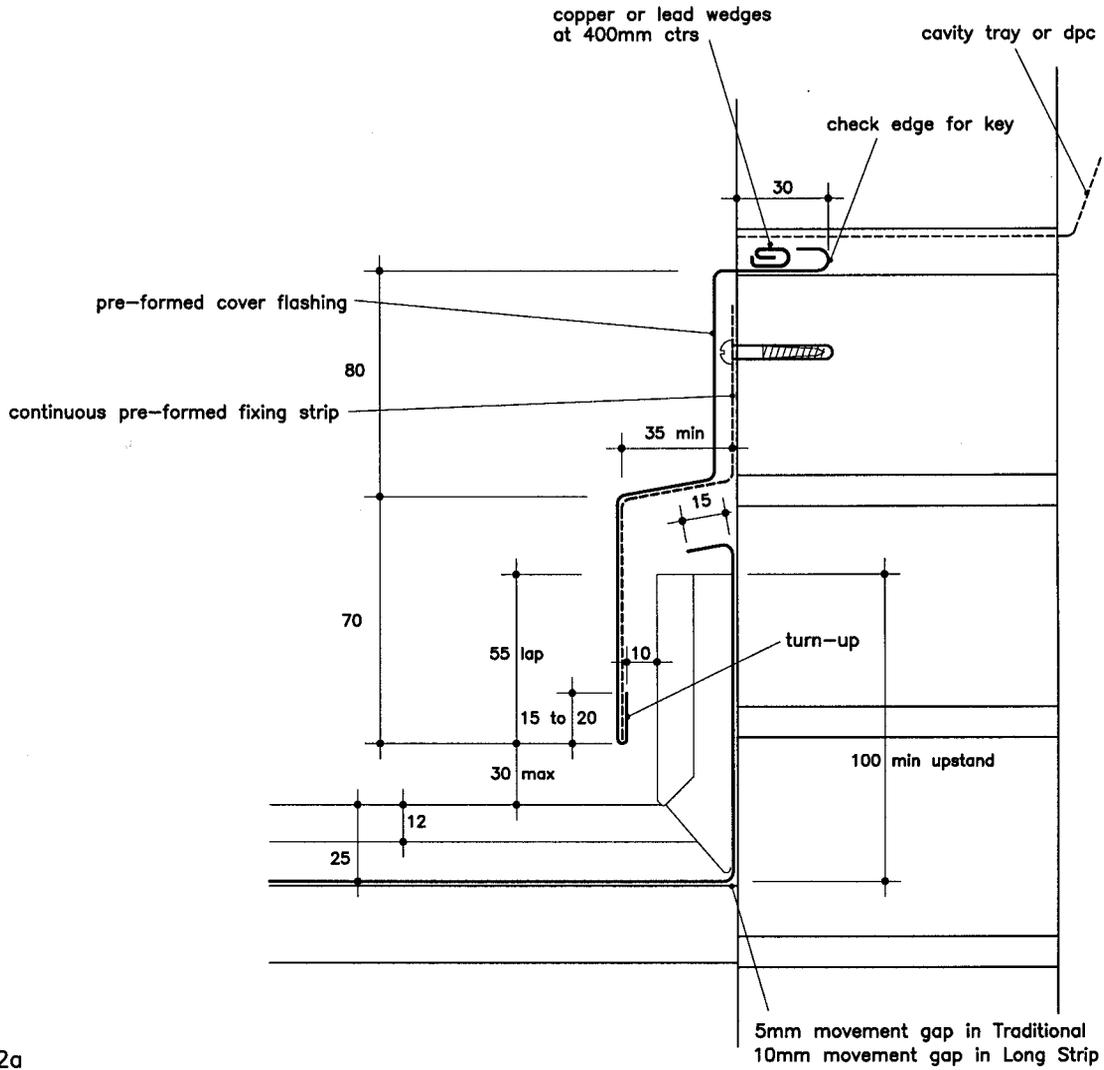

Fig 12a
* In Long Strip roofing this sort of welted flashing detail is not possible. Instead use the Sweep standing seam (see Fig 7a) or the Pinched seam upstand (see Fig 12a).
The minimum upstand height is usually 150mm. Where this is difficult to achieve, the height can be reduced to 100mm if the top of the upstand is turned out 15mm, as shown on Fig 12a (p48).